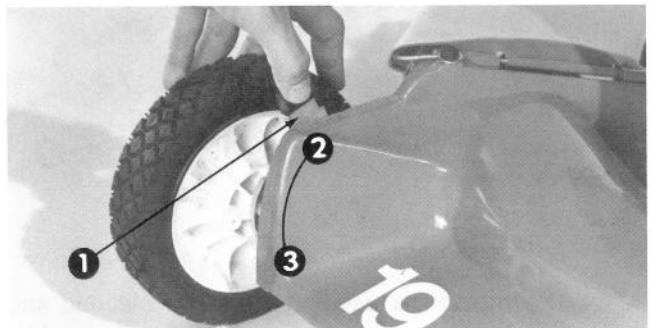

Figure 9
**Height-of-Cut Adjuster** (Fig. 9) — Height-of-cut
2. Place thumb against height-of-cut adjuster and fingers on outside of wheel (Fig. 9).